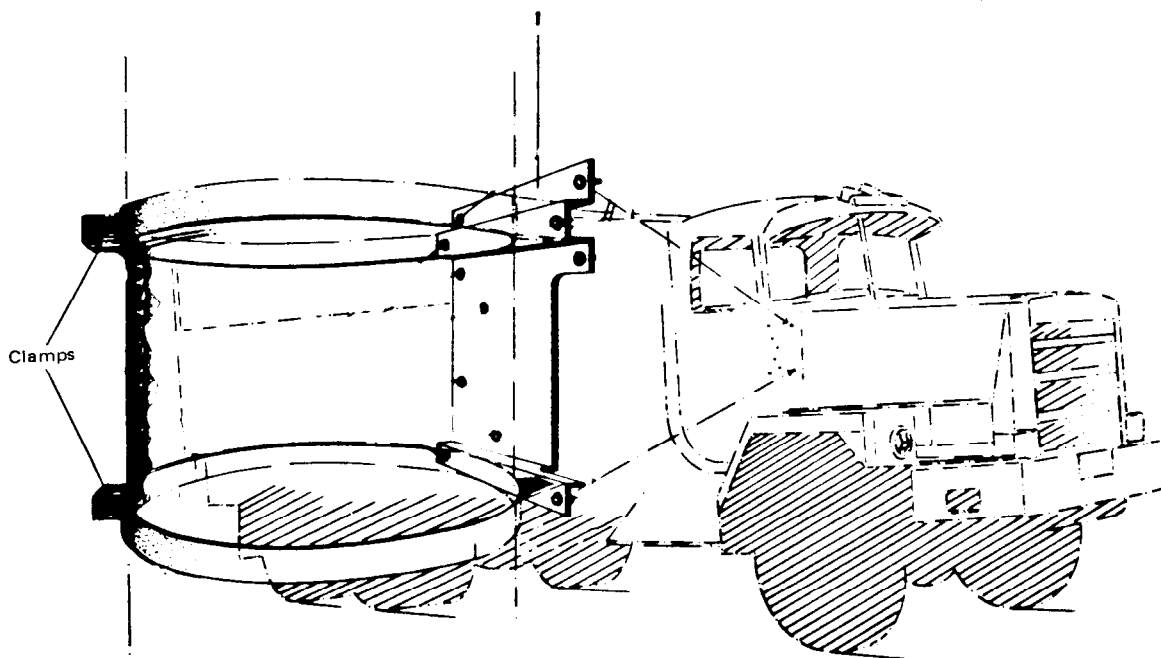

FIG 1 - RIGHT HAND AIR CLEANER
- a. Right hand air cleaner. Referring to Fig 1, remove existing air cleaner straps and replace with item 2 from Table 1.